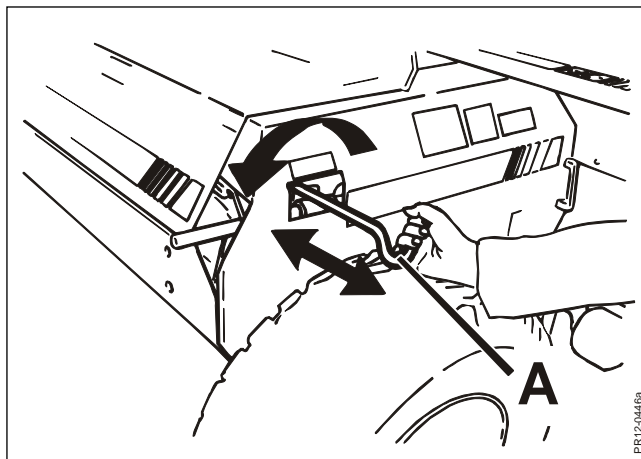

Fig. 4-26
- Fig. 4-26** 3. Adjust the grindstone so that there is 2-3 mm clearance between the stone and the blades by turning the handle **A**.
- Fig. 4-26** 7. Feed carefully by turning the handle **A** until the stone touches the blades. Move the stone in a sliding movement across the whole rotor and back again. Feed some more and repeat the movement across the whole width of the rotor so that the blades in the whole width of the rotor are sharpened.